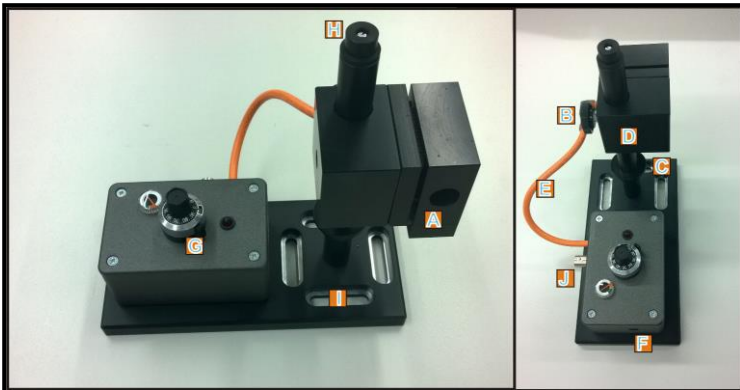

Fig. 2 : images of the TCF main body
Images of the device are shown in Fig. 2: the small etalon plate is sealed in a container, fixed inside a cylindrical cavity in the unit head (A). The head can be placed at a variable height by loosening the plastic screw (B) and sliding the block vertically along the 15 mm diameter post; a movable height-fixing ring (C) is provided to ease the adjustment. To move the support ring, use a small screwdriver to loosen or tighten the locking screw.
- 2) Set the device head's position, height and rotation in such a way that the beam passes through the alignment tool. Slide the height-fixing ring as required to help you in this phase. The etalon can also be rotated around the horizontal axis by loosening and then tightening again the active head fixing screw (letter D in Fig. 2).